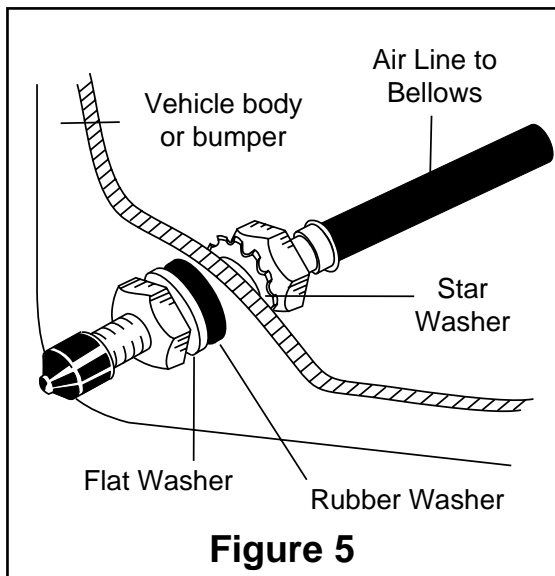

Figure 5
11. Use a standard tube cutter, a razor blade, or very sharp knife to cut the air line in two equal lengths. A clean square cut will ensure against leaks. Drill 5/16" hole for inflation valve and mount as illustrated. Rubber washer on outside is for weather seal (Figure 5).